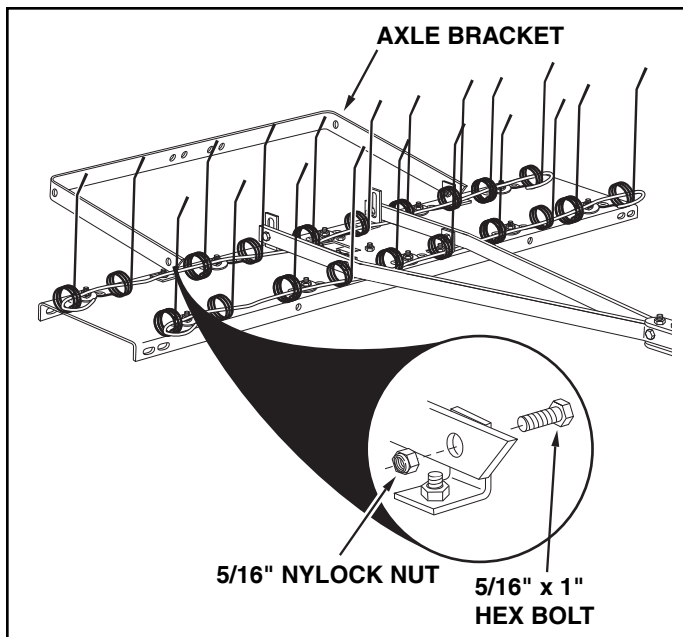

FIGURE 4
- Assemble the axle bracket to the outside of the rear angle brackets using two 5/16" x 1" hex bolts and 5/16" nylock nuts. The angled ends of the axle bracket must point as shown in figure 4. **Tighten** the bolts and nuts and then **loosen** slightly.